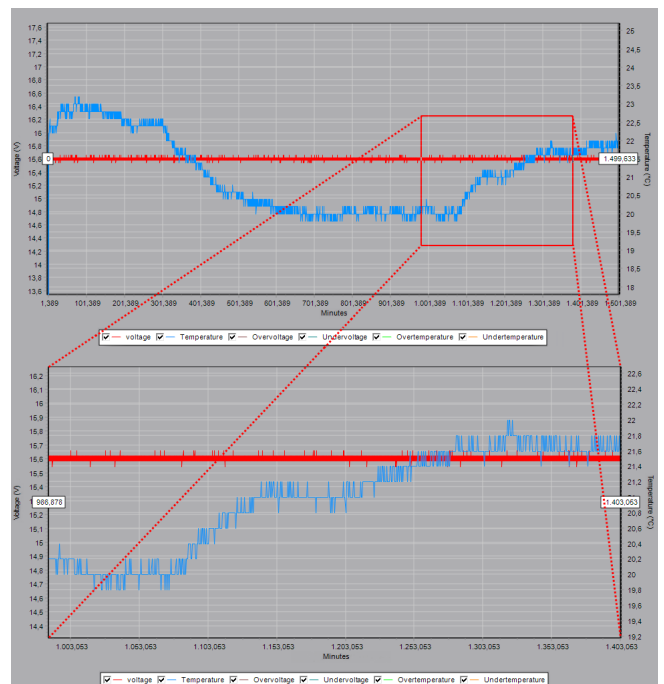

Figure 18: Zooming in
Step 7a. Navigate through the graph to find details. Also see item 2: Graph navigation from the Operation section.
Step 7b. In addition to the 'Graph navigation panel', you can also use your mouse to navigate through the graph. You can zoom into the selected area by dragging from the left at the top to the right at the bottom over the area to be inspected while keeping the left mouse button pressed. You can zoom out by dragging from the right at the bottom to the left at the top while keeping the left mouse button pressed or by pressing the 'Zoom out' button. Figure 18 displays an example of zooming in.